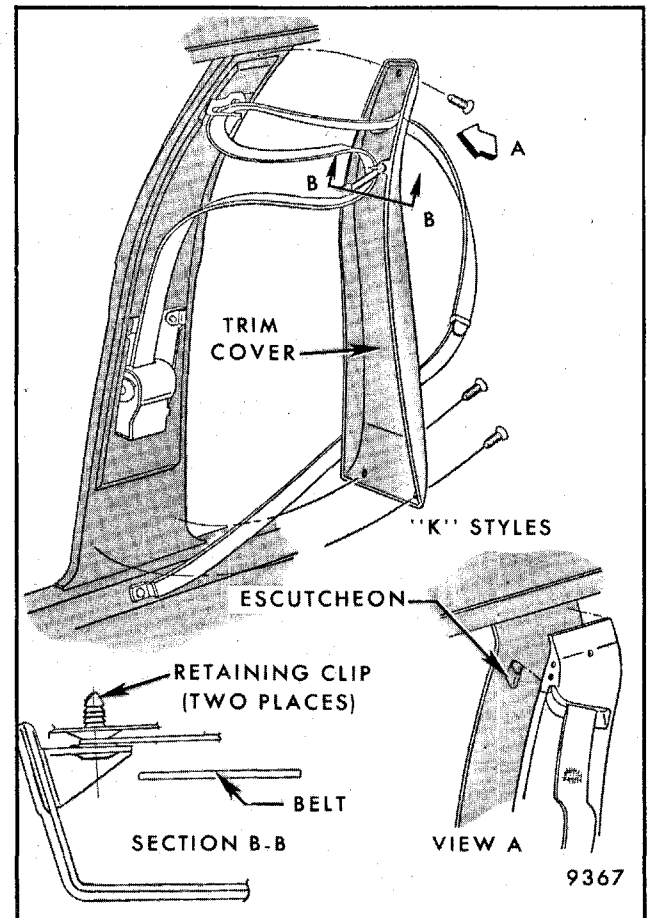

Fig. 5-28 - Center Pillar Trim Cover - Removal and Installation - Cadillac 6KS69 Styles
Description (Refer to Fig. 5-28)
3. Carefully uncrimp webbing slot escutcheon (View C, Figure 5-28) and remove webbing from slot.